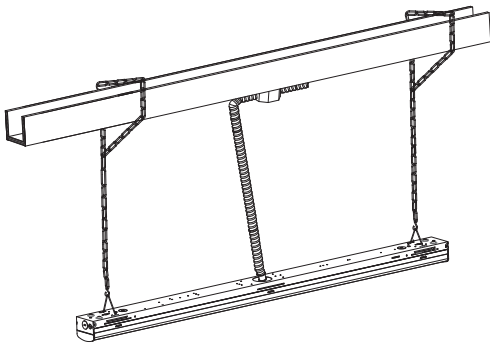

Figure 3
3. Reattach the light engine to fixture, ensuring it is securely in place and that all wires are neatly tucked inside the fixture. This completes the installation process (Figure 3).